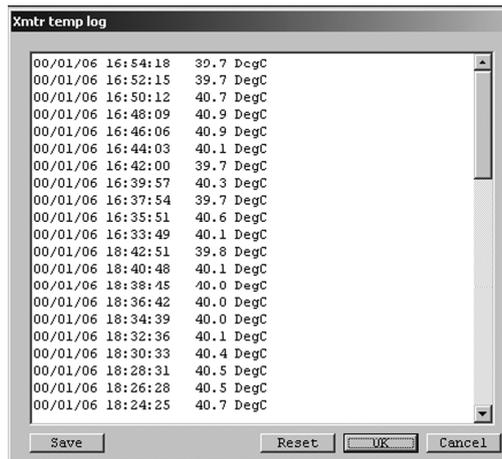
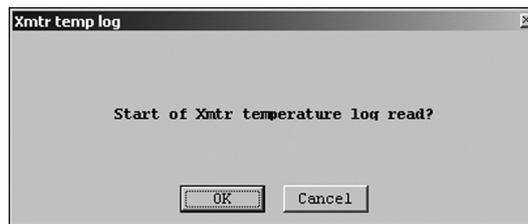

Fig.147
Fig.150
- ⑦ Click "Cancel" to close the "Error log" window.
- ① Click the "Maintenance (M)" menu, and then select and click "Xmtr temp log" from the "Maintenance xmtr" drop-down list.
- ② The following window will be displayed (Fig. 147).
- ⑤ Also, to display the most recent log entry, click the "OK" button in the screen shown in Fig. 147 to display a message box (Fig. 150).